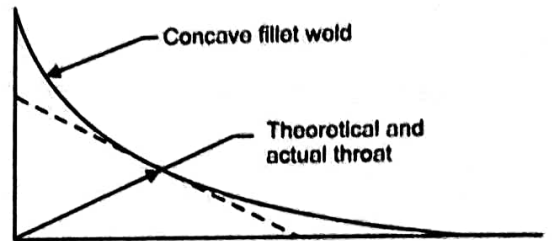

Fig. 5.52. Concave fillet weld
**Concave Fillet Weld :** A fillet weld having concave face. (Fig. 5.52).